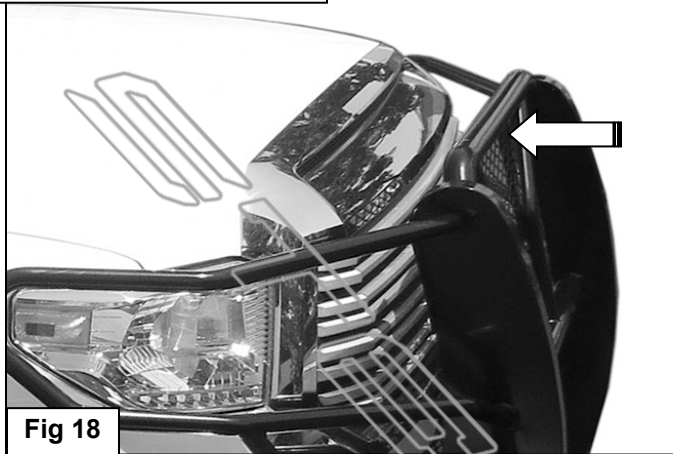
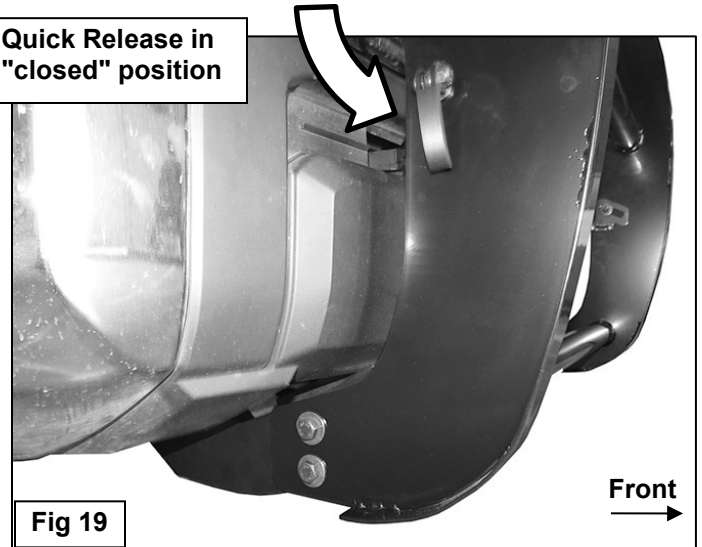

Fig 18
Fig 19
21. Push the Grille Guard back towards the vehicle and fully tighten all hardware, (**Figure 18 & 19**). Reattach the bottom of the bumper cover with the factory hardware, (**Figure 2**).
27. Once the hood is completely closed, push the Grille Guard back to its "closed," upright position and tighten all hardware on the Grille Guard, (Figure 18). Push down on the Quick Release lever to tighten, (Figure 19). No tools are required to close the Quick Release levers. It will require some effort to open and close by hand when properly adjusted. Loosen or tighten the 10mm Nylon Lock Nut on the Quick Release bolt to adjust the clamping pressure.